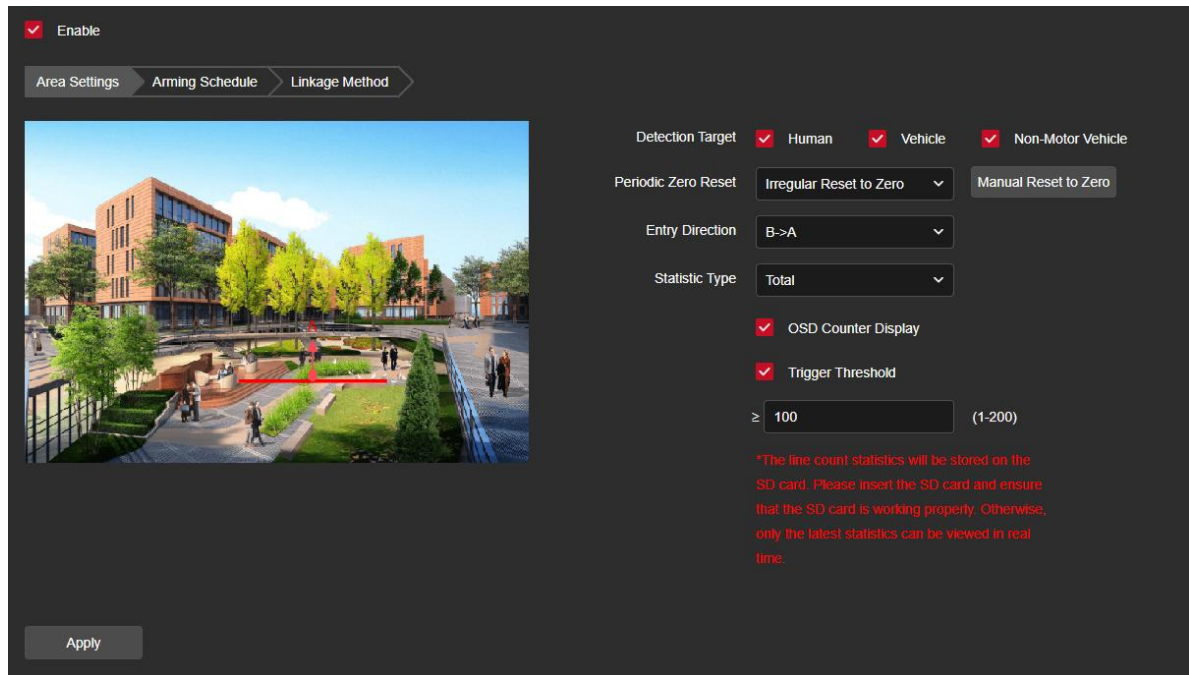

Figure 8-6-45
Step 1: In the main interface click on the "Configuration → Event → Smart Event → Line Crossing Count" to enter the Line Crossing Count settings interface, as shown in Figure 8-6-45.